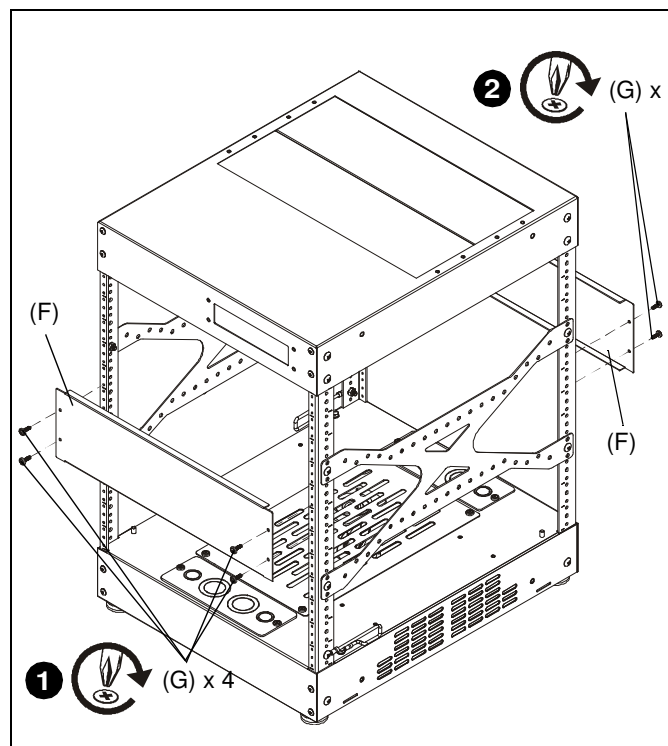

Figure 5
1. Vertically center the alignment panel (F) on the rack rails, and attach using four 10-32 x 3/4" Phillips head screws (G). (See Figure 5)
2. Repeat for back of S1 rack. (See Figure 5)